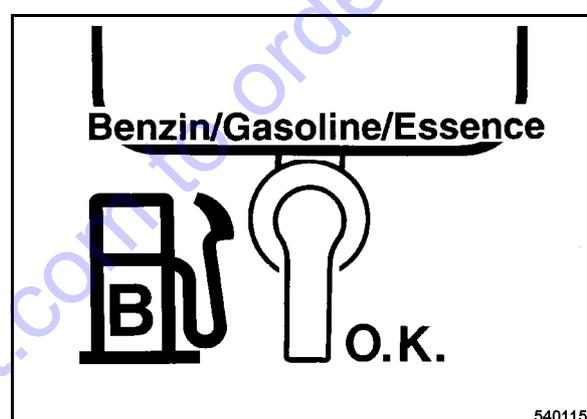

Fig. 12
- Open the fuel cock (Fig. 12).